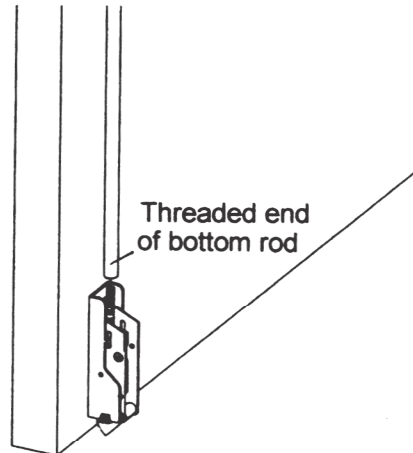

Figure 4
2. Screw the threaded end of bottom rod into bottom latch assembly. (See Fig. 4.)